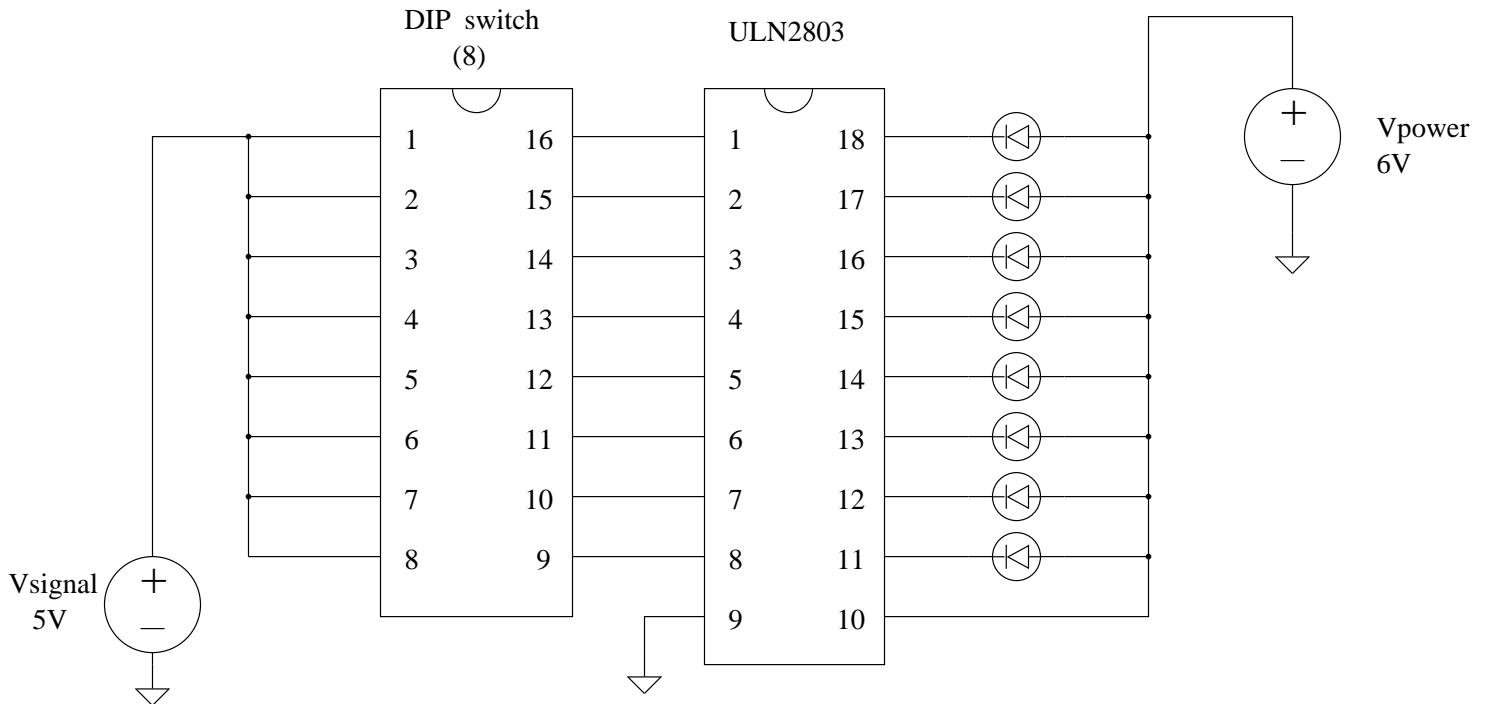

Figure 19: Using a Darlington array
(a) Construct the circuit shown in Figure 19 using a ULN2803 integrated circuit (IC). Note that this IC comes in a standard DIP package as do the switches.